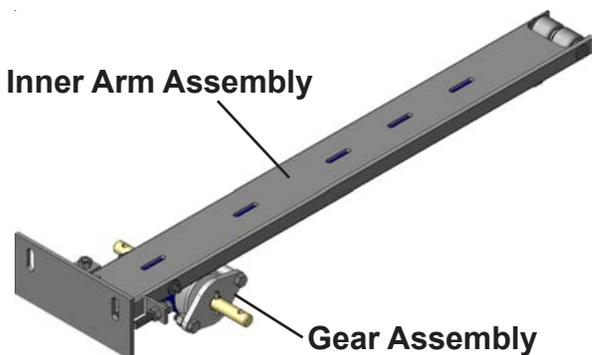

Fig. 2
2. Remove bolt from drive shaft (A) noting the position of the drive shaft. The bolt and drive shaft must go back to the same position as it was before removing the bolt.
3. Disengage timing coupler from gear assembly drive shaft and slide it along drive tube to free gear rack drive shaft (B).
4. Remove bolts from front of gear pack (C). Loosen bolt on back of gear pack but do not remove (D).
5. Pivot gear assembly on rear bolt to disengage pinion gear (E) from gear rack.
6. Remove old Inner Slideout Arm and replace with new Inner Slideout Arm (Fig.2).